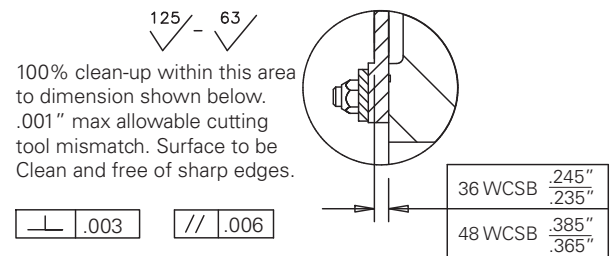

Figure 15
- 4.5.17 Machining of the wear surfaces is required for the 36WCSB and 48WCSB tensioner/brake assemblies after replacement of the wear plates or the adjoining friction material. See Figure 15 for machining specifications. Clean all wear surfaces after machining to remove any residual contaminants.